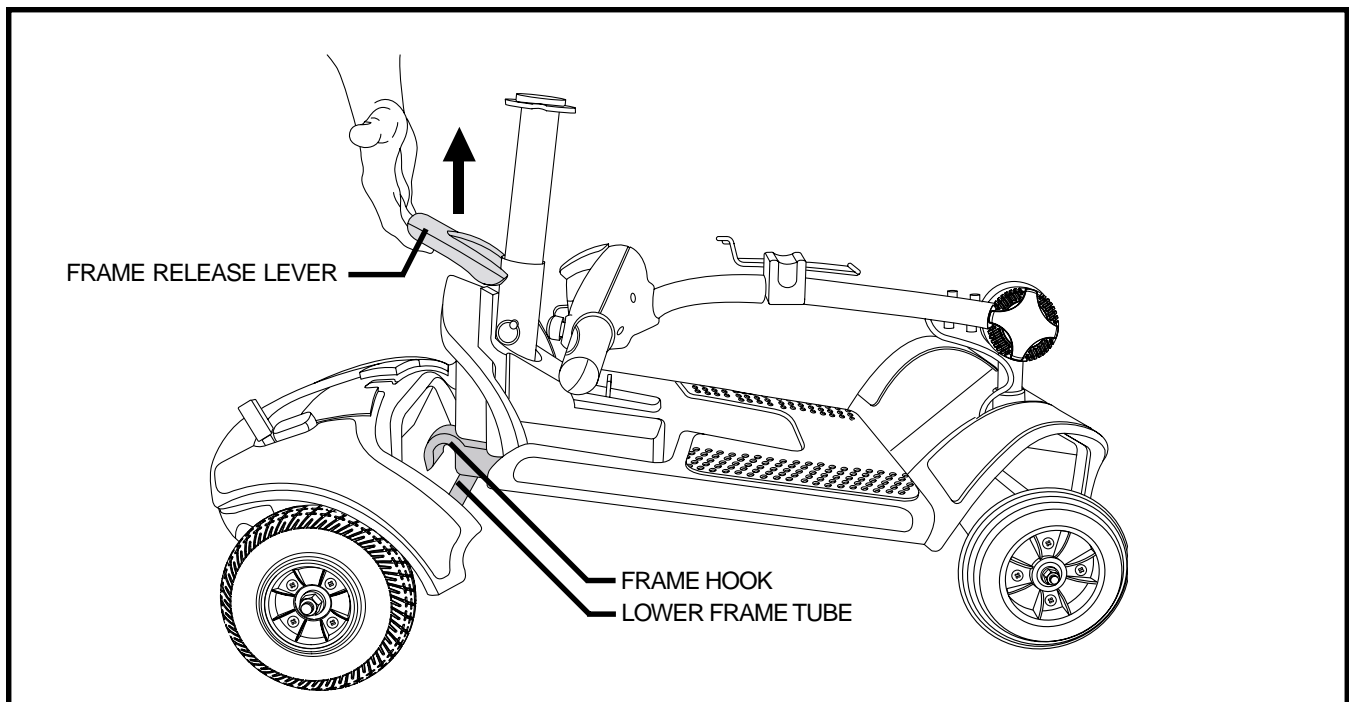

Figure 19. Frame Separation
2. Lift up on the frame release lever until the frame hooks are no longer resting on the lower frame tube. See **figure 19**.
3. Slowly separate the two sections of the Travel Scooter. See **figure 19**.
NOTE: Before attempting assembly, tilt the rear half of the Travel Scooter slightly back on the anti-tip wheels as show in figure 19.
1. Use the frame release lever to lift the front section as you align the frame hooks of the front section with the lower frame tube of the rear section. **See figure 19.**